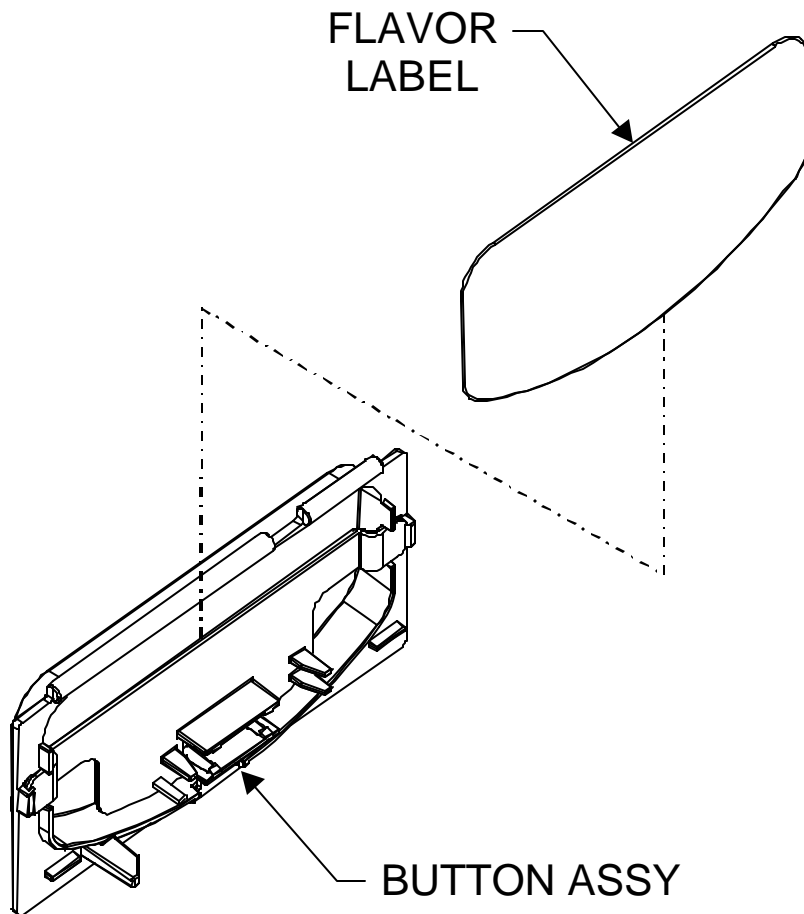

Figure 5
**FLAVOR LABELS:** Flavor labels are installed from inside the outer door. Open the vendor door and swing the inner door away, to gain access to the reverse side of the control panel. Open the coinage door. The flavor labels slide into carrier clips on the back of each flavor window (Figure 5).